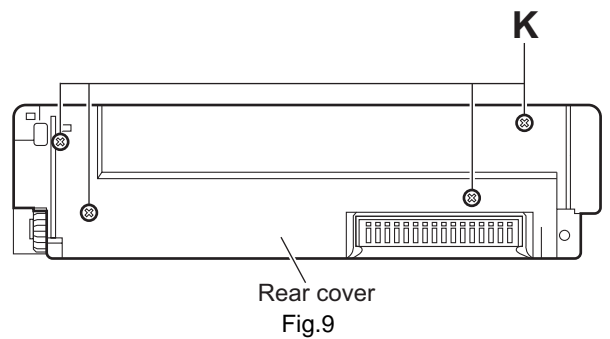

Fig.9
### 3.1.8 Removing the front board (See Figs.9 to 11)
- (1) Remove the four screws **K** on the back side of the front panel assembly. (See Fig.9.)